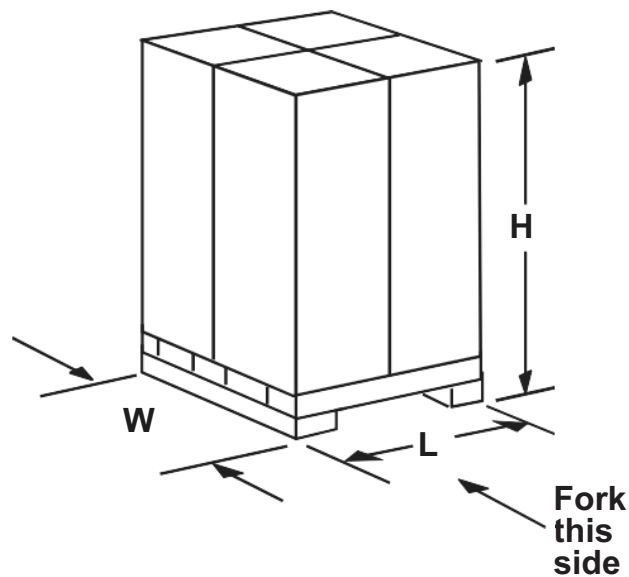

Figure 1
1. Vertical/Upright in carton 4 per pallet, see **Figure 1**.
2. Vertical/Upright inside cabinet (risers shipped separate or customer supplied) 4 per pallet, see **Figure 1**.